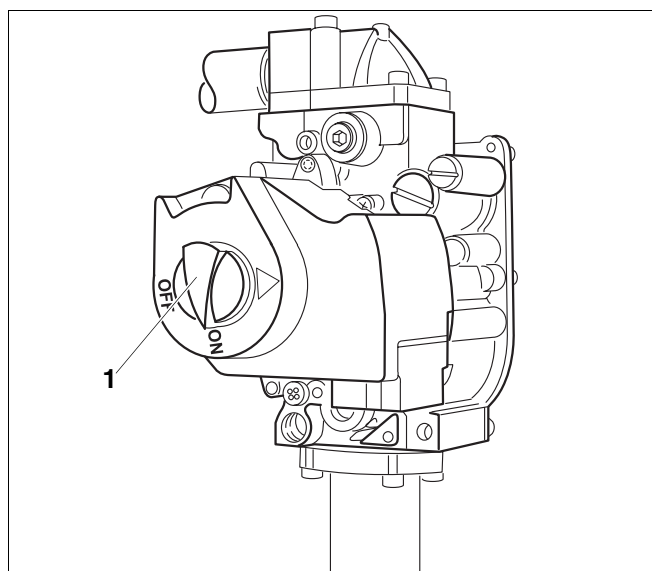

Fig. 23 GC124 II gas valve
- Never use excessive force on the ON/OFF knob (→ Fig. 23).
3. Turn ON/OFF knob (→ Fig. 23) counterclockwise to the ON position.